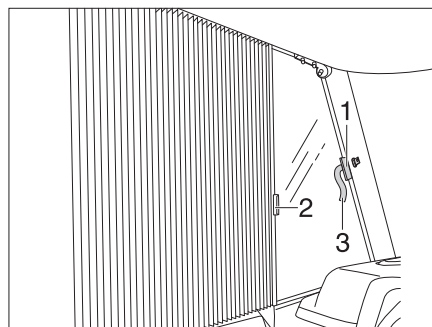

Fig. 87 Roman shade for driver's window and front passenger's window
- Open the Velcro of the securing loops (Fig. 87,3) on both sides.
- Grasp the handles (Fig. 87,1 and 2) of the Roman shades one after the other and draw carefully towards each other until the magnetic catch keeps the Roman shade closed.
- Carefully push the Roman shades back at the handles (Fig. 87,1 and 2).
- Secure the Roman shade with the Velcro of the securing loop (Fig. 87,3).